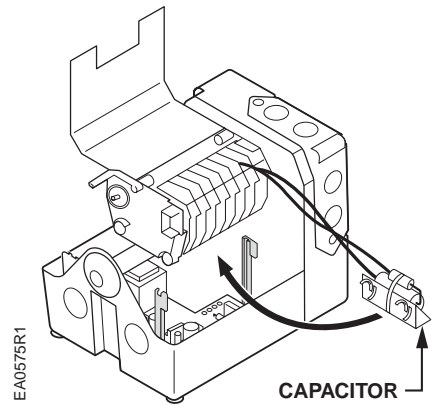

Figure 20.
5. Re-install the actuator motor capacitor. See Figure 20.